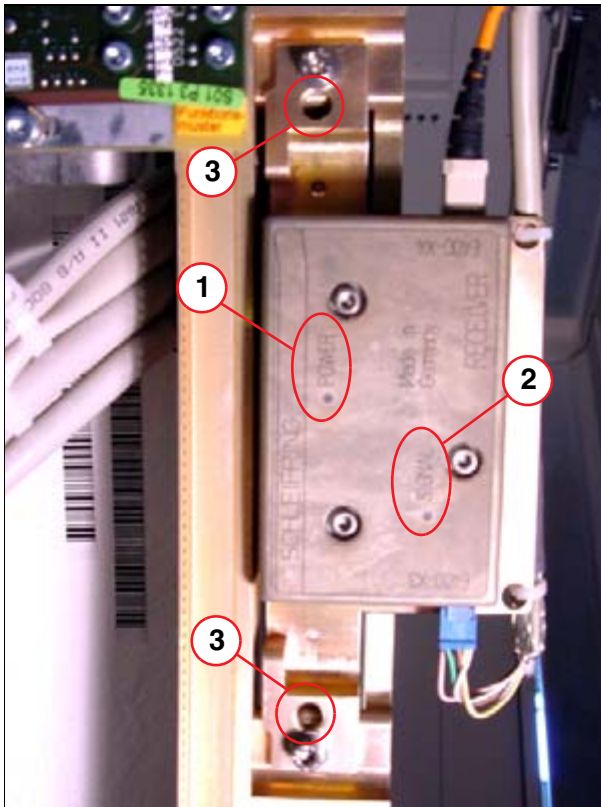

Fig. 65: Slip ring receiver
- Check the **Signal detect** LED at the slip ring receiver module (yellow LED) \(2/ Fig. 65 / p. 93\)
- ⇒ If the signal detect LED (2/Fig. 65 / p. 93) switches on at the slip ring receiver, RCOM's DOM output is OK.